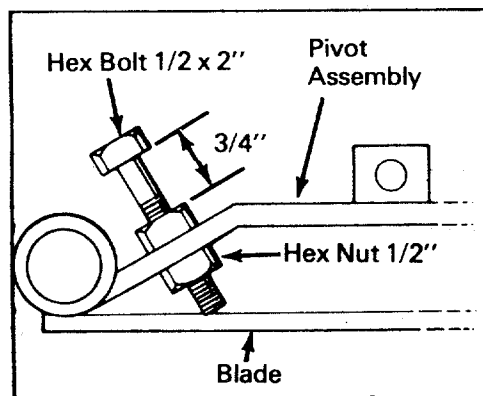

FIGURE 3
4. Place the Hex Head Bolt 1/2-13 x 2 in the Pivot assembly and lock with two Hex Nuts 1/2. Leave about 3/4 of the thread above the Pivot Plate. See figure 3.
The blade pitch is adjusted by loosening the Hex Nuts 1/2-13 Thd. and turning the two Hex Bolts 1/2-13 x 2. (See figure 3).